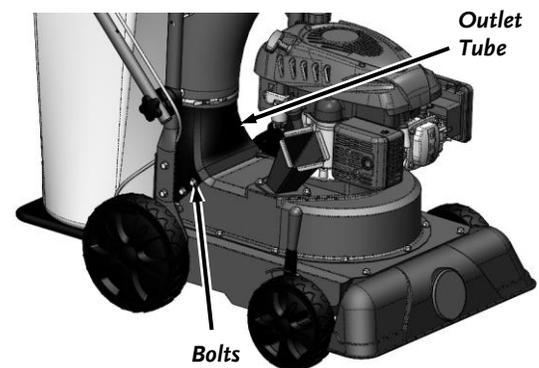

Figure 27
6. Remove the four Bolts that secure the Outlet Tube to the Impeller using a 1/2" Wrench (**Figure 27**). Remove the Outlet Tube from the Impeller Housing.